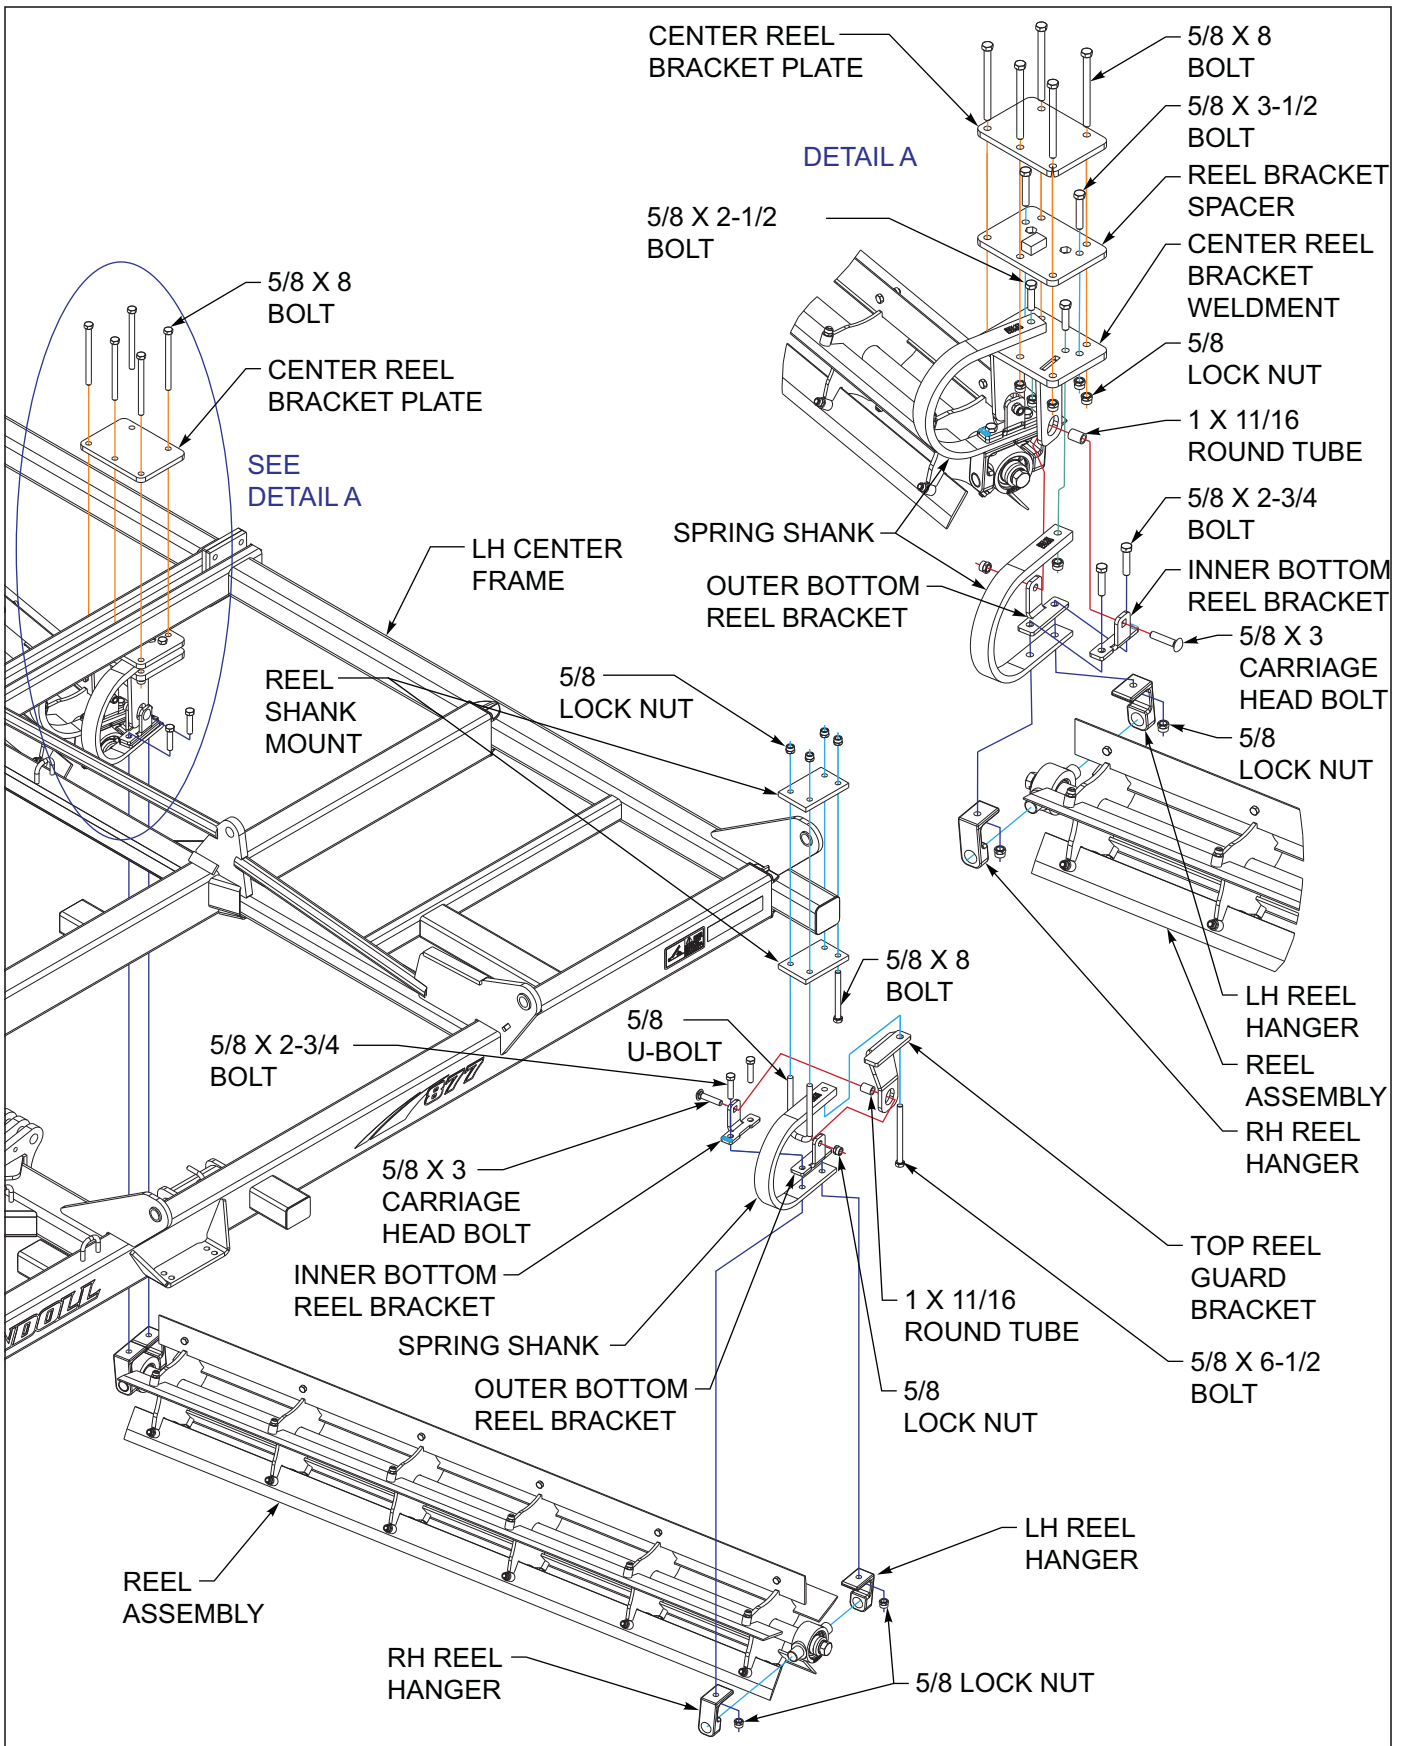

Figure 3-27: Reel Assembly
- b. The inner reel bracket (with square hole) must be placed toward the reel blades See Figures 3-27.
- h. Carefully lift reel assembly and loosely bolt top reel bracket plate to frame as shown in See Figure 3-27 using 5/8 x 8 bolts and 5/8 lock nuts See Figures 2-13 through 2-18 for location on frame.
- a. Set inner bottom reel bracket on top of outer bottom reel bracket and loosely attach to top reel guard bracket using 5/8 x 3-1/4 round head square neck screw, round tube spacer, and hex lock nut. The inner reel bracket (with square hole) must be placed toward the reel blades See Figure 3-27.